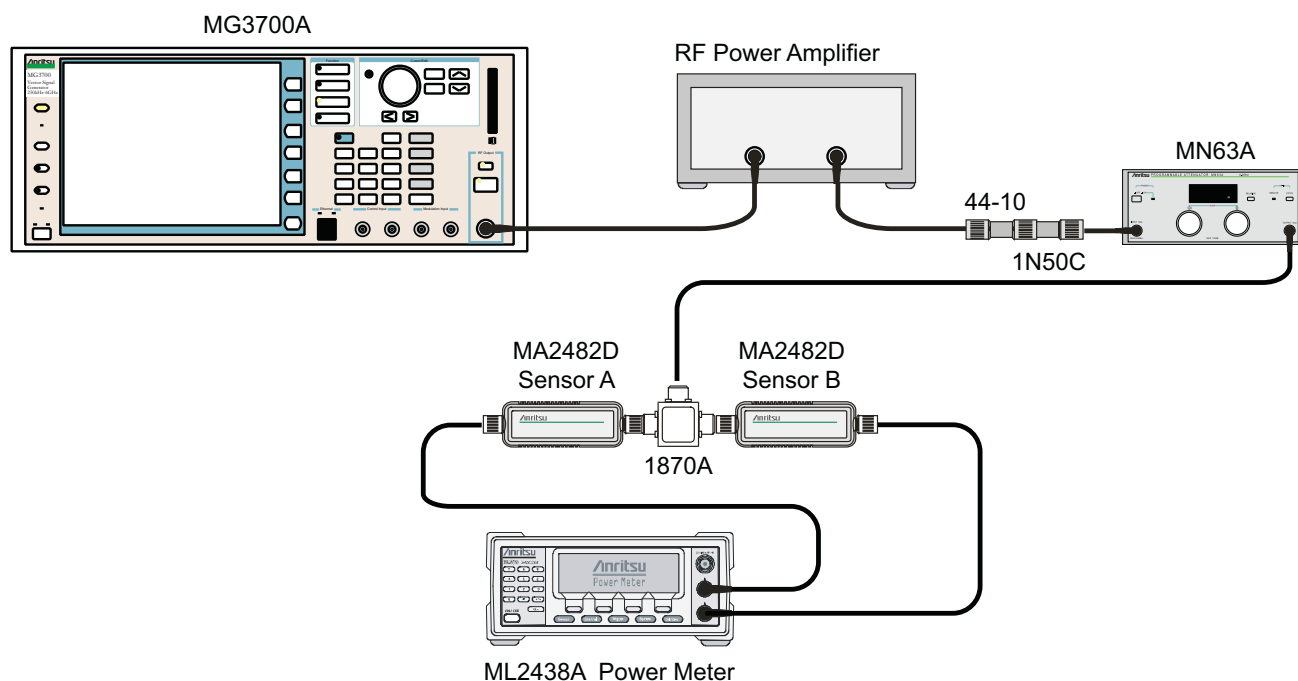

Figure 5-18. DVB-T/H SFN Analyzer Option 78, 1 dB Compression Level Verification - Two Sensors
4. Connect the MG3700A Signal Generator, Power Amplifier with N(f) to BNC(m) adapters, RF Limiter, MN63A Programmable Attenuator, Power Divider, Power Meter, and Power Sensors as shown in Figure 5-18, “DVB-T/H SFN Analyzer Option 78, 1 dB Compression Level Verification - Two Sensors”.
36. Remove the MT8222A from the test setup and reinstall Sensor A to the open splitter output as shown in Figure 5-18, “DVB-T/H SFN Analyzer Option 78, 1 dB Compression Level Verification - Two Sensors”
45. Remove the MT8222A from the test setup and reinstall Sensor A to the open splitter output as shown in Figure 5-18, “DVB-T/H SFN Analyzer Option 78, 1 dB Compression Level Verification - Two Sensors”.